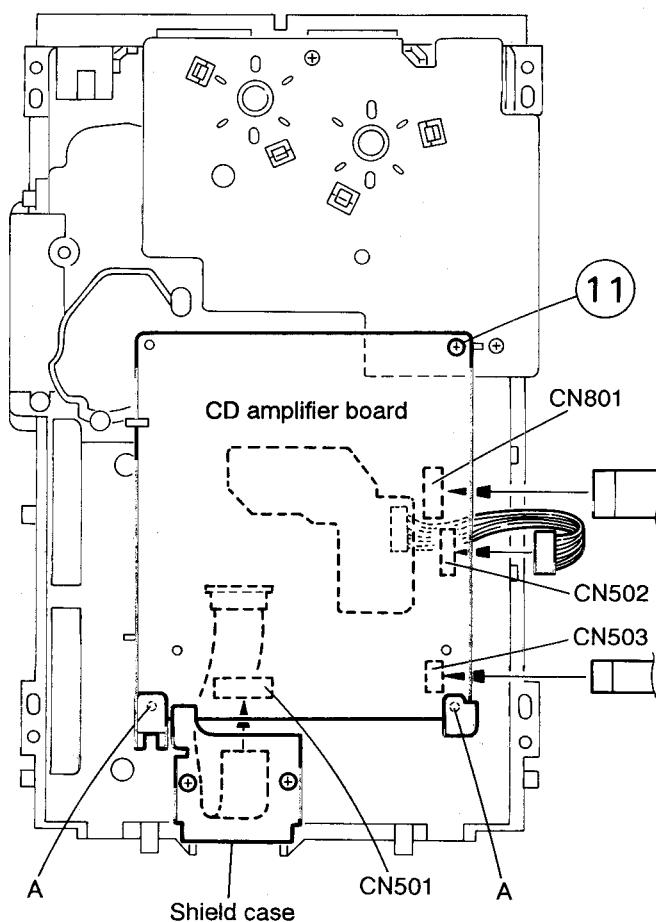

Fig. 5-17
■ Removing the CD amplifier board (See Fig. 5-17)
3. Remove the one screws (11) retaining the CD amplifier board.
4. From the loading base assembly, remove the two pawls (A) fixing the CD amplifier board.